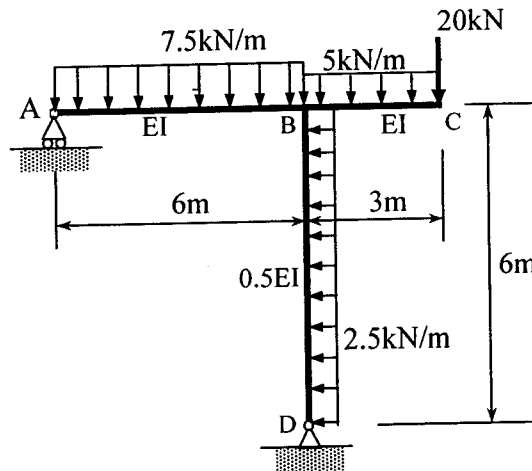

Figure 1
1. Figure 1 shows a frame with roller and pin supports at A and D, respectively. The frame is subjected to: uniformly distributed loads of 7.5kN/m, 5kN/m and 2.5kN/m along members AB, BC and BD, respectively; and a point load of 20kN at C. EI for members AB and BC are the same, while that of member BD is 0.5 times that of members AB and BC.